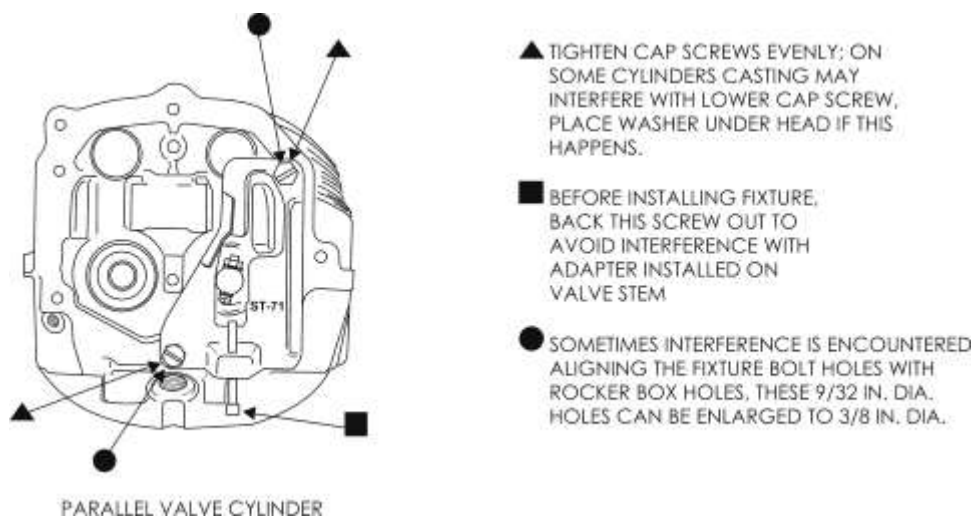

Figure 6
- (18) Loosen the screws identified in Figure 6 to prevent the screw from touching the Gage Adapter (ST-71-8) when installed on the valve stem.
- (19) Install the Gage (ST-71) on the valve on the cylinder head as shown in Figure 6.
- (27) Relax the screwdriver and record the reading on the dial indicator. For the exhaust valve guide to be acceptable, the measurement must be within the specified limits in the latest revision of the *Service Table of Limits - SSP-1776*.
- (28) Move the piston to near its top end of travel.
- (29) Remove the Gage Adapter (ST-71-8) from the valve stem.
- (30) Loosen each cap screw in the Gage (ST-71) (Figure 6) in small equal increments to decrease pressure on the valve spring slowly and equally.
- (31) Remove the Gage (ST-71) from the cylinder.